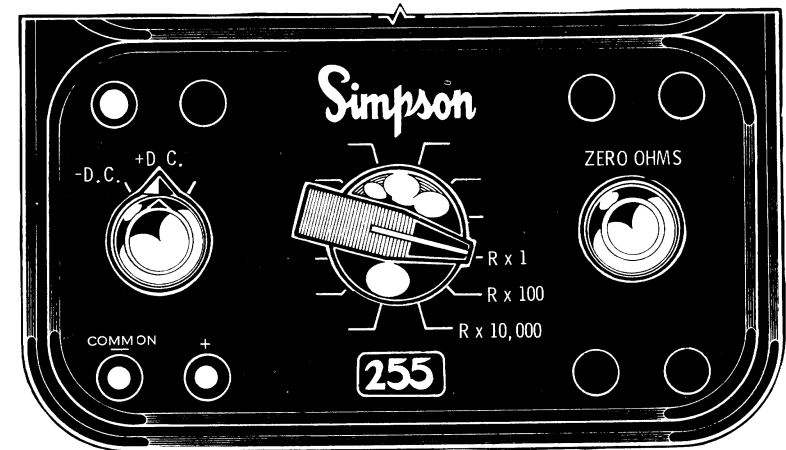

Figure 4-5. Jacks and Switch Positions for Resistances
- Set the range switch to the resistance range to be used and the function switch to either —DC or +DC (Figure 4-5).